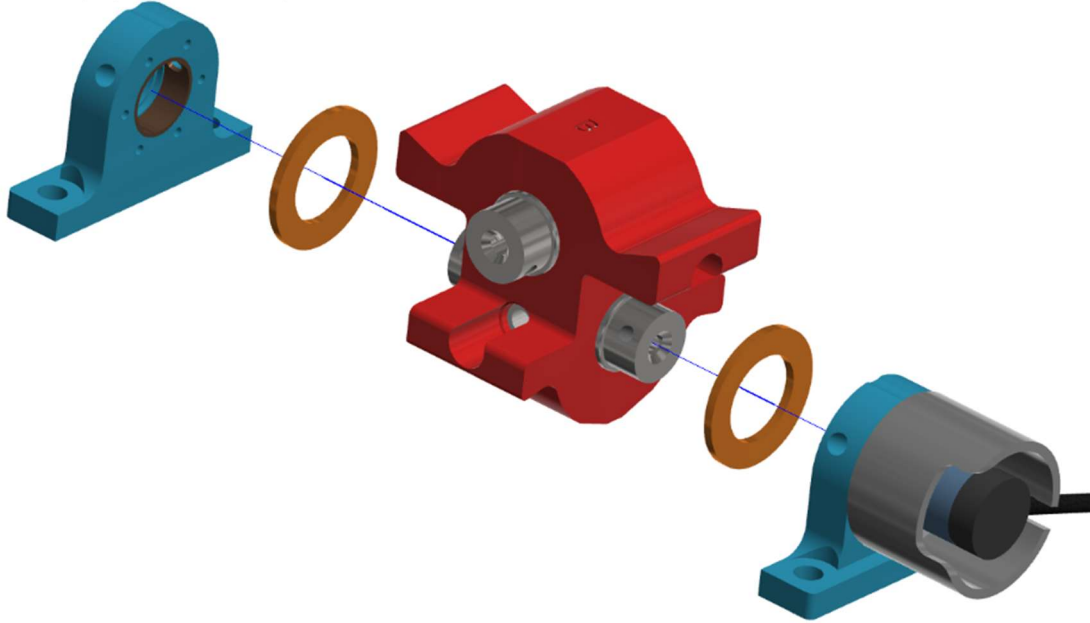

Figure 10-31. Ankle bushing plates and ankle block assembly
10.2.27 Slide the two Ankle Bushing Plates off the Ankle Center Block Assembly (474-5824-A) (Figure 10-31).